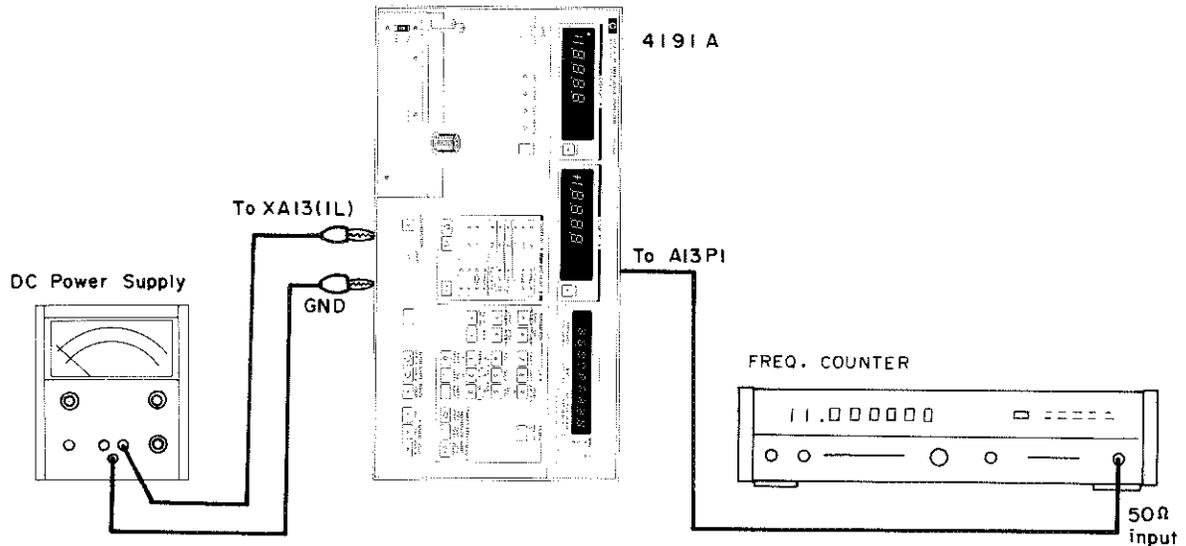

Figure 5-7. Sampling Frequency VTO Adjustment Setup.
5. Connect the dual banana to alligator clip cable between 4191A XA13 pin 1L (board connector) and dc power supply output as shown in Figure 5-7.